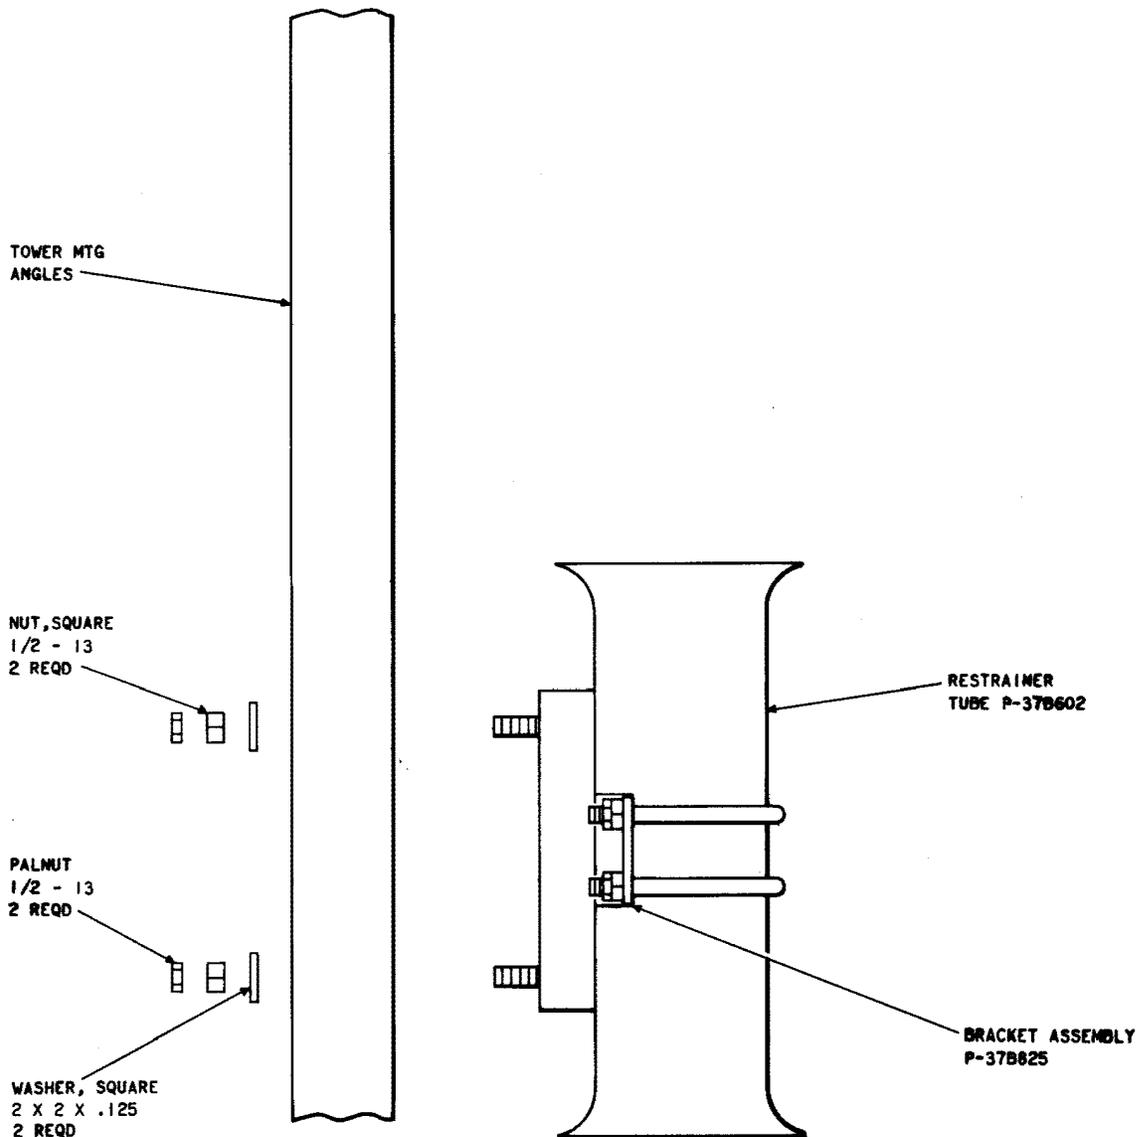

Fig. 6—Installation of Circular Restrainer Assembly, P-37B824
**2.12** Attach the P-37B824 circular restrainer to the tower mounting angles below the 29B transducer as shown in Fig. 6, using the washers, nuts, and palnuts supplied with the restrainer. Slide the restrainer up around the transducer and position the midpoint of the restrainer to the junction of the circular waveguide and the transducer. Tighten the nuts and palnuts of the restrainer.